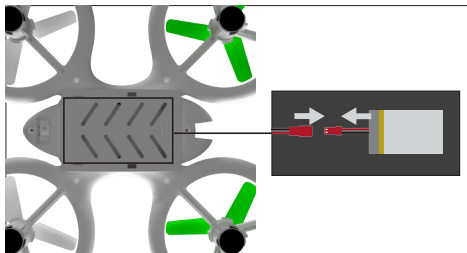

FIGURE 2
2. Connect the wire of the 3.7v lithium battery to the receiver wire in the power port (Fig. 2).